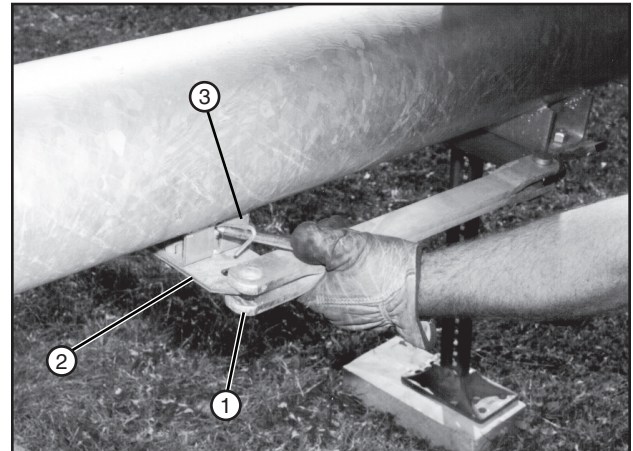

Figure 67-2 1. Tow Link Bar
4. Rotate the tow link bar into the tow link carrier until the carrier spring latches into the hole in the tow link bar. See figure 67-2.